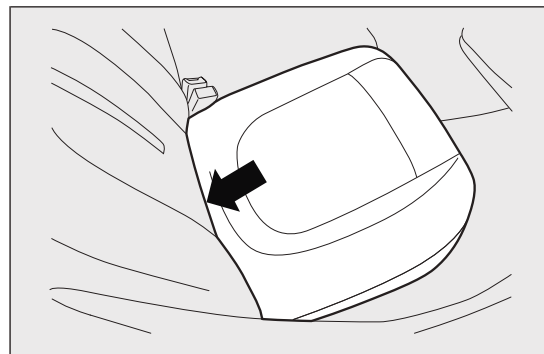

fig. 76
- fold the desired cushion forwards fig. 76 working in the point shown by the arrow;